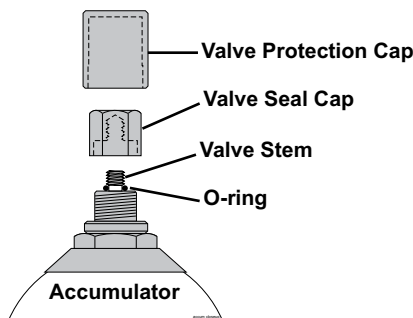

Figure 33
4. Remove the valve protection cap and the valve seal cap from the accumulator that you will charge first (Figure 33).